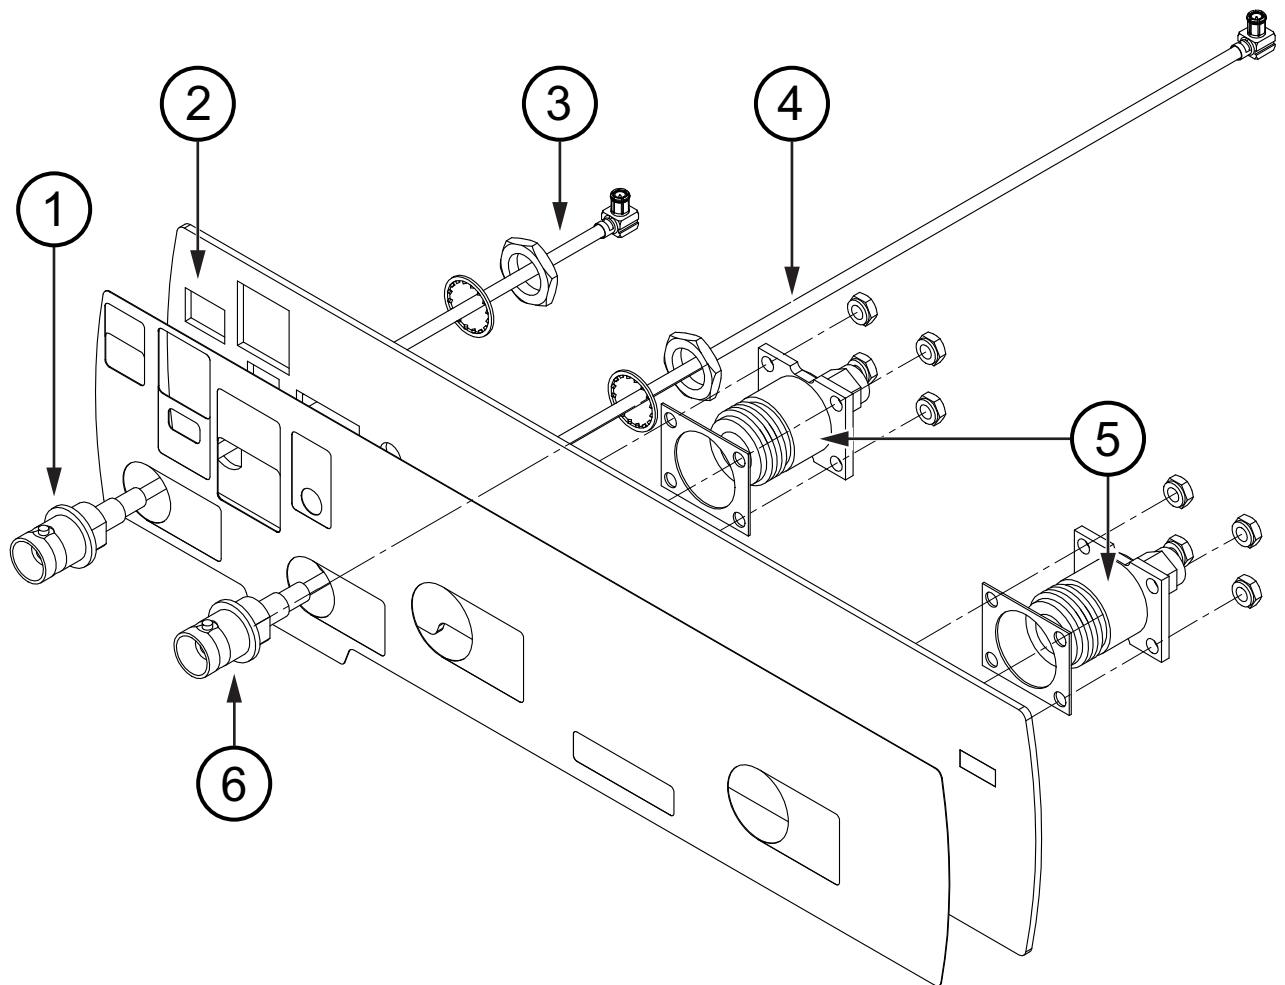

Figure 4-24. Connector Panel for 8 GHz Option 708
Refer to Figure 4-24 on page 4-31.
1. Remove the four nuts that secure the Type N Port connector to the Connector Panel. Refer to item 5 in Figure 4-24.